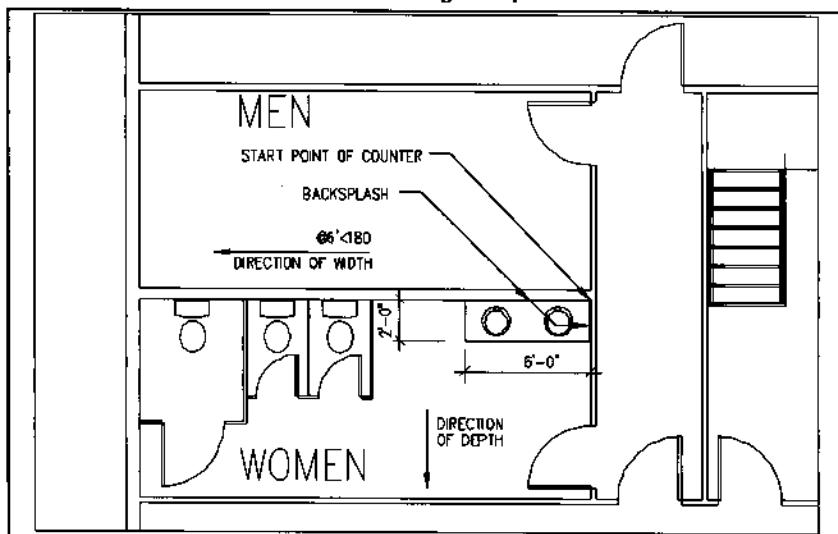

Figure 75.
2. Add a 6' wide by 24" deep countertop with 2 lavatories 16" wide x 17" deep, as shown in Figure 75, by selecting Counter with Lavs from the Multiple Fixtures pull-down or icon menu.
- > Pick start point of the counter: INT of [select top right corner of women's room, as shown in Figure 75]